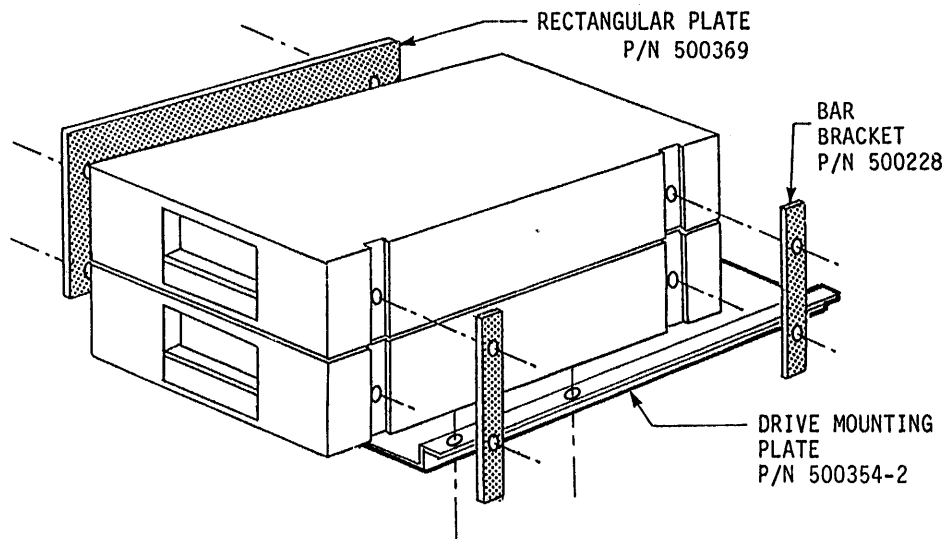

FIGURE 2-3: 8" SLIMLINE FLOPPY DRIVES BRACKETS
If dual slimline floppy drives are used they are first secured together. Using the following procedure and Figure 2-3 as a guide prepare the slimline floppy drives for installation into the chassis.
1. Secure the 8" slimline floppy drives together with the supplied mounting brackets using eight (four on each side) 8-32 x 3/8 panhead phillips screws with associated lock and flat washers as shown in Figure 2-3.